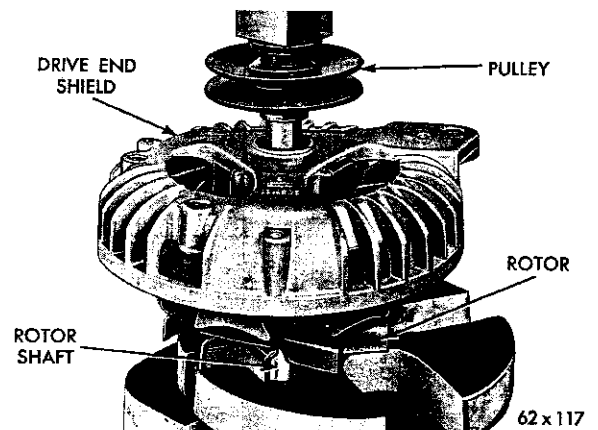

Fig. 79—Installing Alternator Pulley
(8) Install the pulley on the rotor shaft. The shaft of the rotor must be supported in a manner so that all pressing force is on the pulley hub and motor shaft (Fig. 79).